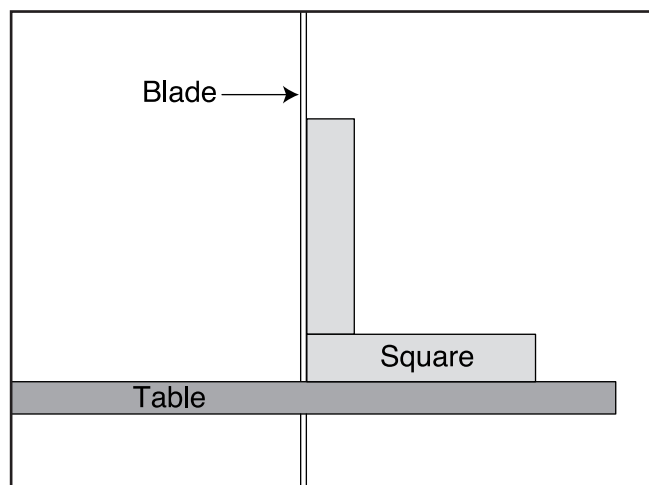

Figure 16. Squaring table to blade.
4. Raise guide post and place a machinist's square on table next to side of blade as illustrated in **Figure 16**. Adjust table square with blade using table tilt handwheel, then secure with table tilt lock lever.